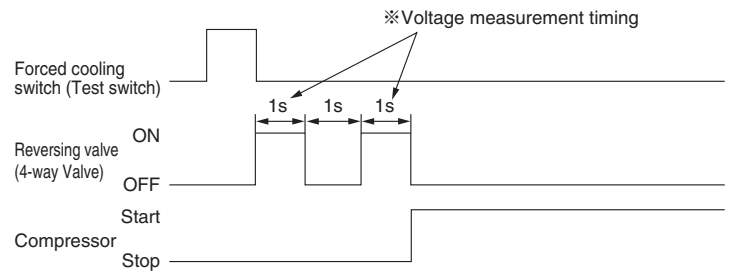

Fig. 4-1
- Just before the compressor starts operation, the current is applied twice at the interval of 1 sec as shown in Fig. 4-1.
- During forced cooling operation, just after the forced cooling switch turns on, the current is applied twice at the interval of 1 sec as shown in Fig. 4-1.